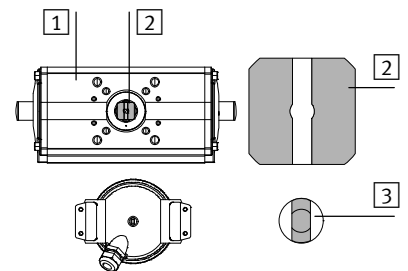

Fig. 5
- Using a suitable tool or with the aid of the coupling, align the shaft of the limit switch attachment so that the shaft of the limit switch attachment, the coupling and the shaft of the quarter turn actuator all intermesh in the desired way (see example in Fig. 5).